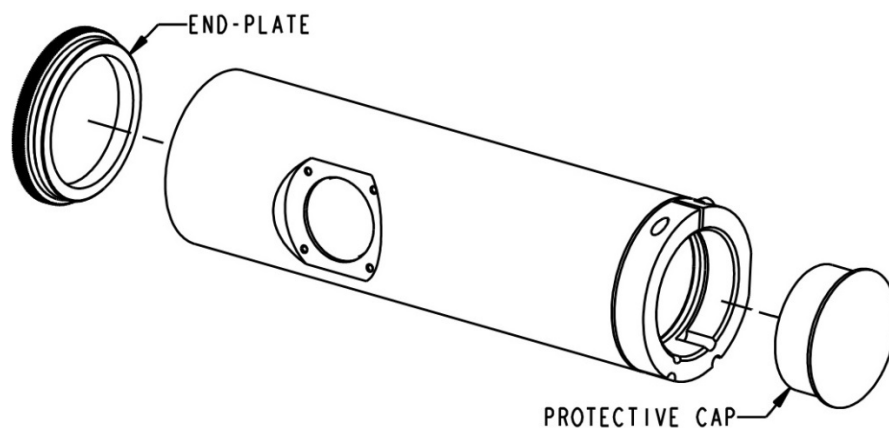

Figure 3: The end-plate (covering the SpotScan's control panel) and protective cap.
1. At the sensor-end of the SpotScan, use a 5-mm hex key to undo the clamping ring on the end of the unit and ease out the protective cap (Figure 3). Put the cap aside, and keep it for re-use whenever there is no sensor in place in the SpotScan.
2. At the opposite end of the SpotScan, unscrew the end-plate (Figure 3) which covers the unit's control panel (the end-plate is sealed by an O-ring, so will be tight). This relieves the air pressure in the unit and should be done whenever the temperature sensor is being installed or removed.
The control panel is on the end of the SpotScan. In normal operation, the control panel must be covered by the screw-on end-plate (Figure 3, p. 9), sealed by its O-ring. To adjust the unit's rotating mirror, remove the end-plate (which will be tight, because of the O-ring seal) and proceed as follows.